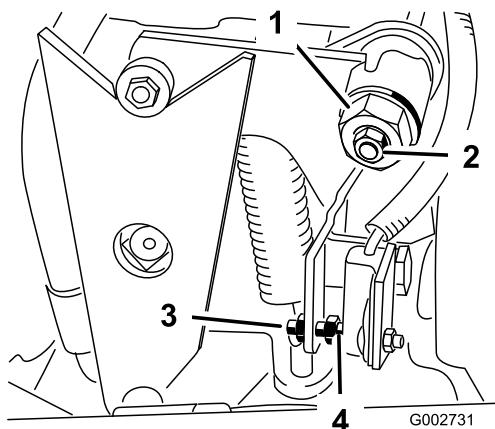

Figure 33
4. Loosen the locknut on the traction adjustment cam (Figure 33).
5. Start the engine and rotate the cam hex (Figure 33) in both directions to determine the mid position of the neutral span.
3. Adjust the screw until the air gap is .060 inches $\pm .030$ (Figure 33).